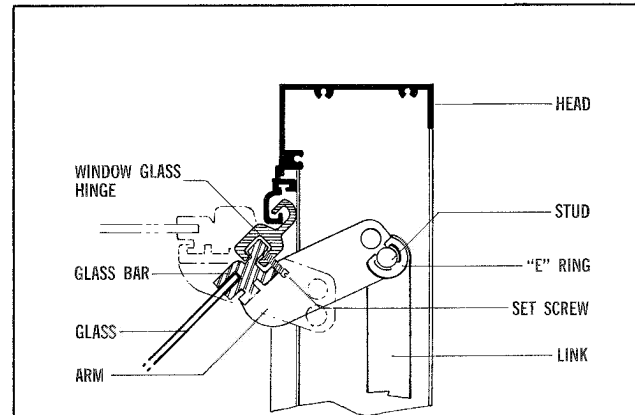

FIG. 86a
2. Remove the "E" ring at the top of the window (see Fig. 86a).